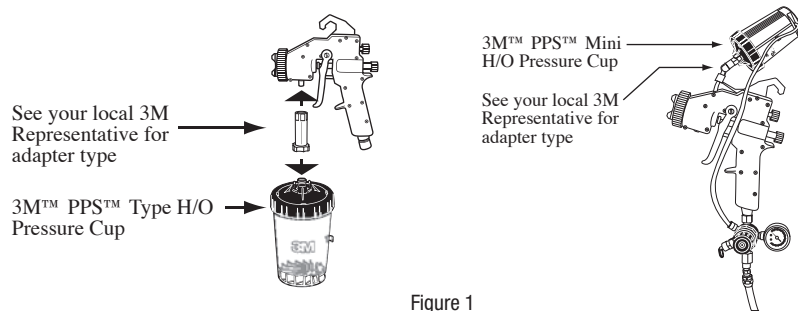
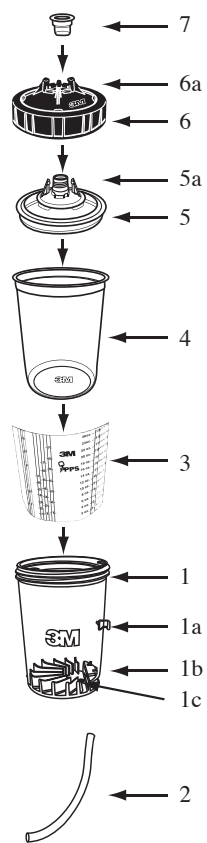

Figure 1
Figure 2
- **Requires the use of a 3M™ PPS™ spray gun adapter (sold separately) to attach the 3M™ PPS™ Type H/O Pressure Cup to the spray gun. Reference Figure 1.**
- **Use Only Genuine 3M Parts and Accessories. Reference Figure 2 Component Listing.**
1. Insert optional 3M™ PPS™ Mix Ratio Film Insert (3) into the 3M™ PPS™ Type H/O Pressure Cup (1) if desired. Otherwise, insert a 3M™ PPS™ liner (4) into the 3M™ PPS™ Type H/O Pressure Cup (1) and add the desired amount of material to be sprayed.
2. Insert a 3M™ PPS™ lid (5) onto the 3M™ PPS™ liner (4) and press down until secured.
3. Align the opening on the Retaining Collar Shroud Assembly (6) with the 3M™ PPS™ lid lock tabs (5a) and screw the Retaining Collar clockwise onto the 3M™ PPS™ Type H/O Pressure Cup (1) and hand-tighten.
4. If the material will not be sprayed immediately, a 3M™ PPS™ plug (7) can be inserted into the lid spout to seal contents.
5. When ready to spray the contents, remove 3M™ PPS™ plug (7) if used, and connect the spray gun with the previously installed 3M™ PPS™ adapter to the 3M™ PPS™ Type H/O Pressure Cup. Reference Figure 1.
6. Attach the cup pressure hose (2) from the spray gun to the pressure port (1b) on the 3M™ PPS™ Type H/O Pressure Cup. The hose clip on the cup (1a) may be used to hold the hose securely in place while spraying.